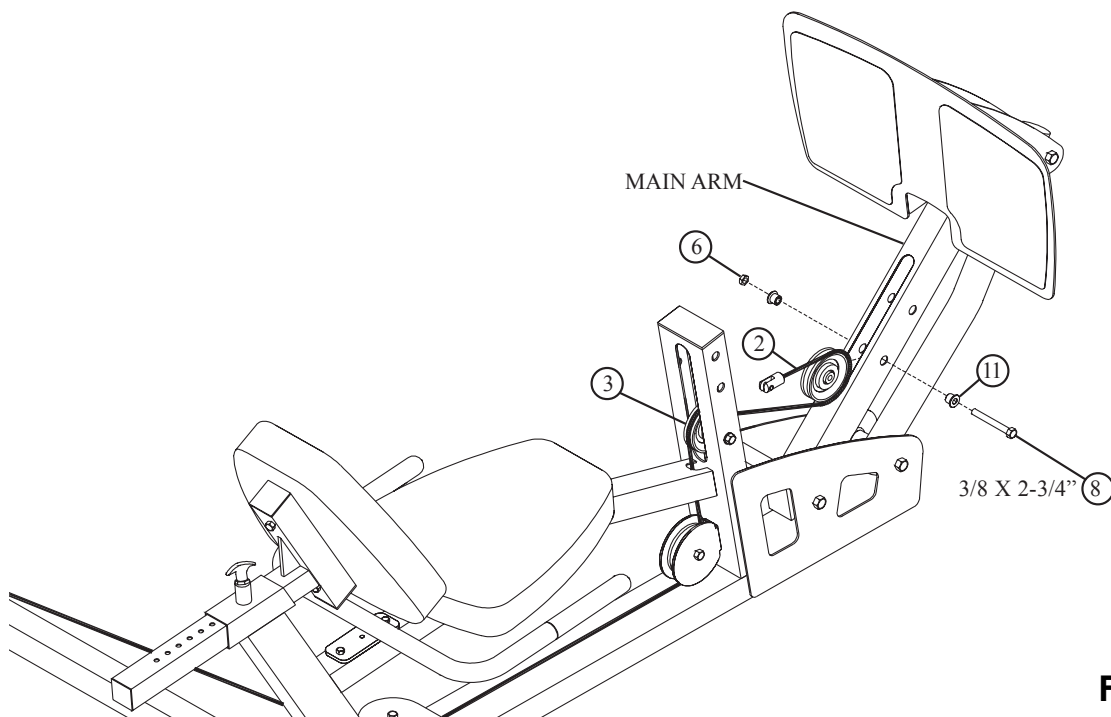

FIGURE 10
- Carefully route the LEG PRESS CABLE (2) around one 3-1/2" PULLEY (3) and **SECURELY** assemble the 3-1/2" PULLEY (3) to the MAIN ARM using one 3/8" X 2-3/4" BOLT (8), two STEP SPACERS 19/32" (11) and one 3/8" LOCK NUT (6) as shown in FIGURE 10. Make sure the CABLE is in the grooves of all the pulleys.